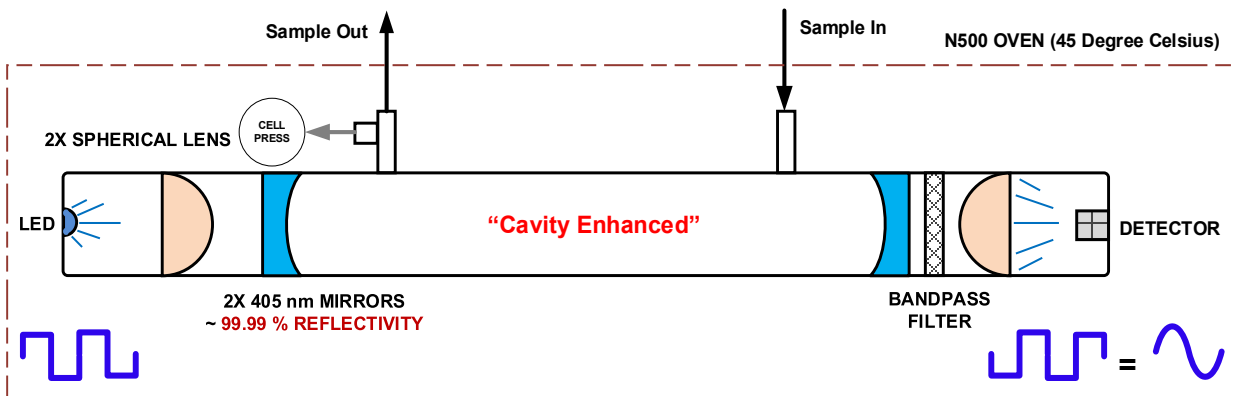

Figure 6-1. N500 Optical Absorption Cell
The CAPS method employed in the N500 is unique in that it applies this fundamental optical absorption law in the frequency domain, rather than using relative changes in light intensity as the primary signal. Ultraviolet light (UV) from the modulating high intensity LED enters a near confocal optical cell (Figure 6-1) through the rear of mirror A. The intensity of the light, as observed by the detector, which is also modulating at a slightly different frequency, located behind Mirror B, builds exponentially in the cell while the LED is ON. The opposite is true when the LED is OFF. Because both mirrors are highly reflective at 405 nm, a prominent absorption band for NO2, the light takes a considerable amount of time to plateau in the absence of the absorbing gas. However, when NO2 is present, the mean path length traveled by the light is significantly reduced. This has two effects on the observed intensity as measured by the detector: